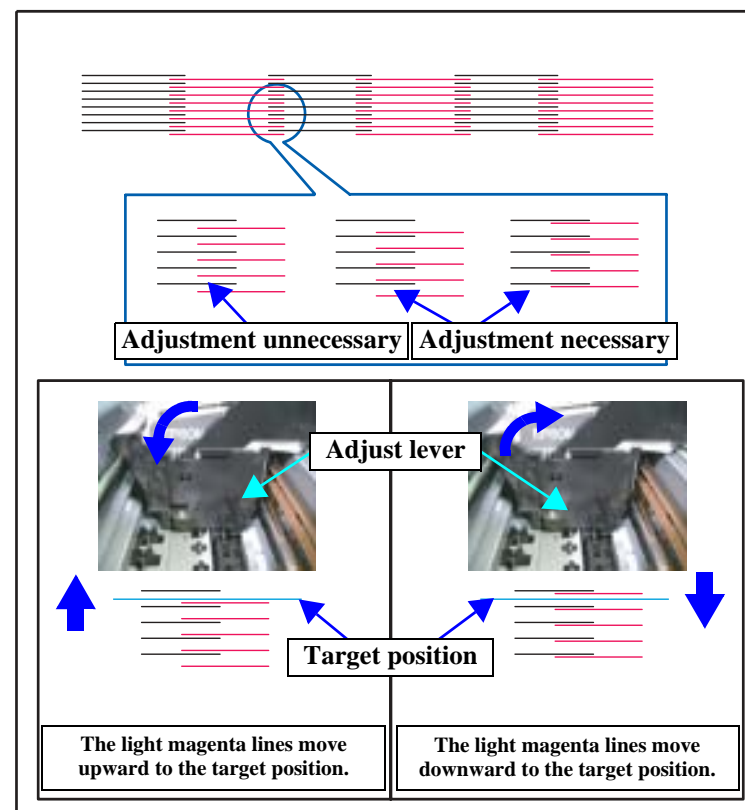

Figure 5-16. Adjust Lever and Head Angular Adjustment Check Pattern
4. Refer to Figure 5-16 and move the Adjust lever, and while pressing both ends of the Head fastener against the far side of the CR, tighten the fixing screws.